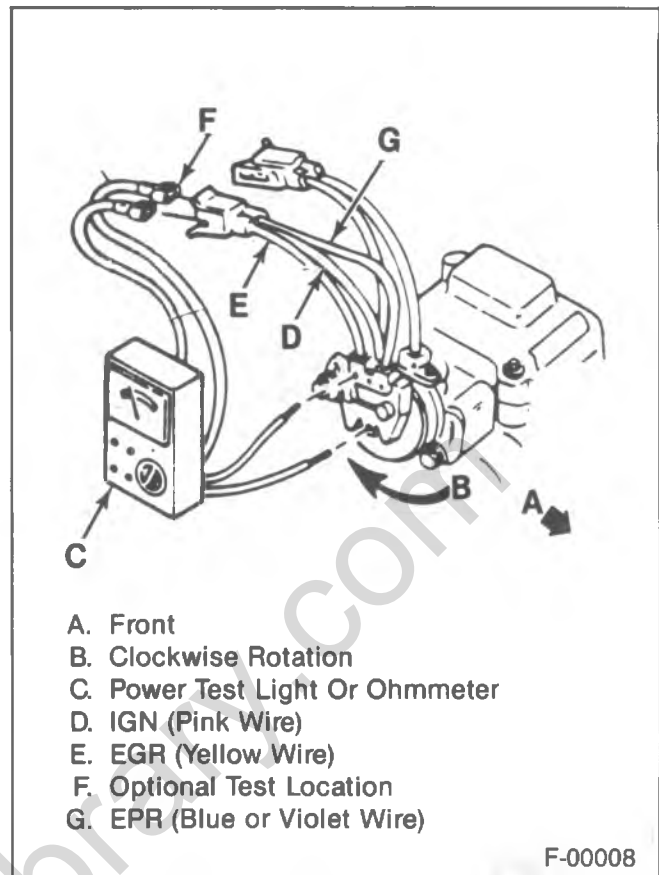

Figure 12—Testing the TPS for Continuity
3. Connect an ohmmeter or test light to the IGN (pink) and EGR (yellow) terminals of the TPS (figure 12).